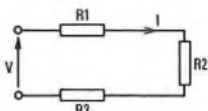

Fig. 1
Q. 4. (a) In Fig. 1, derive an expression for the voltage, V_1 , across resistor R_1 in terms of the other symbols on the diagram.
A. 4. (a) From Ohm's law, the current, I amperes, flowing in the circuit shown in Fig. 1 is given by $I = V/(R_1 + R_2 + R_3)$, and the voltage across resistor R_1 is given by $V_1 = IR_1$.